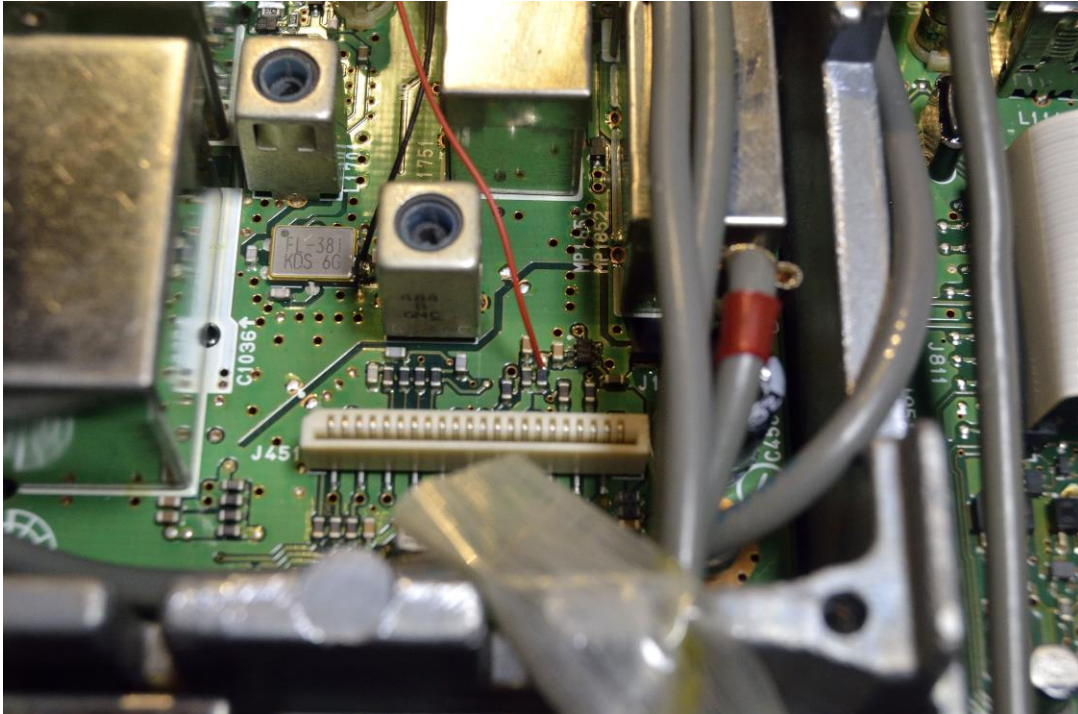
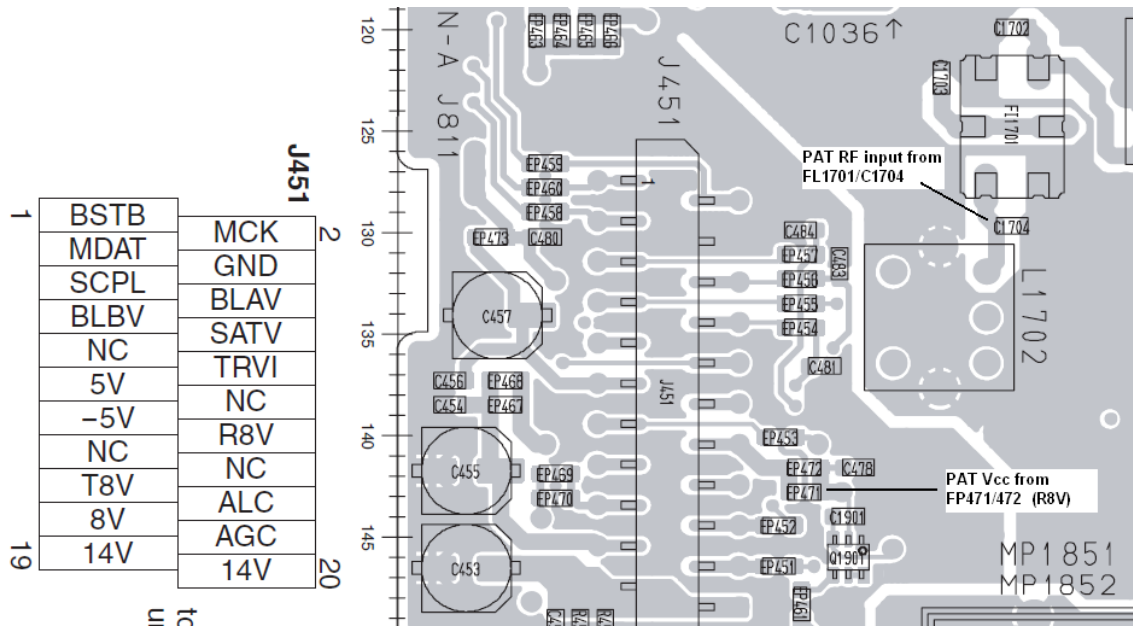

Fig 3 – PAT input connection (black wire) from the 1st IF filter FL1701
Fig 5 – PAT connections on RF-B Unit PCB
- 6 The 1st IF filter is accessible from the upper side of the RF-B Unit PCB, and is shown in Fig 3. Whilst a better signal could be extracted from the output of the 1st IF amplifier stage, Q1751, this is not accessible without removing the PCB from the rig. The black wire in Fig 3 is the PAT input signal, whilst the red wire is the power, taken from the R8V line.
- 8 The PAT power connection is picked up from the SMD ferrite beads associated with connector J451, as shown in Figs 3 and 4. Fig 5 shows the detail of the RF-B Unit layout extracted from the IC756 Pro III Service Manual, and this can be compared with the photographic view in Figs 3 and 4.